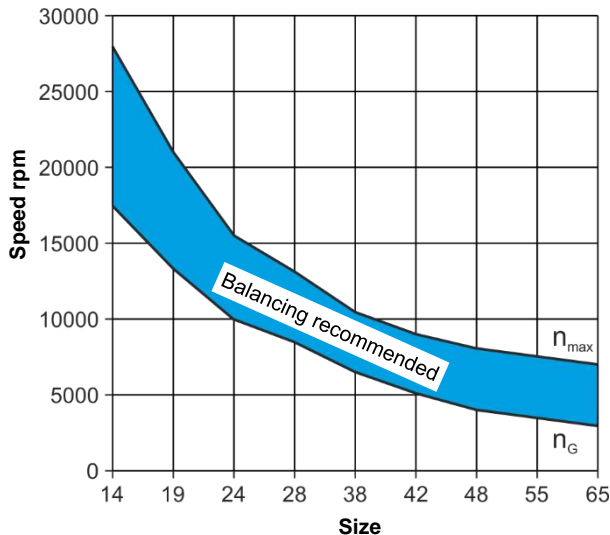

Fig. 19 (Balancing the shrink disk hubs)
- **Clamping hubs (0/5), key hubs (2), split clamping hubs (3) and expansion hubs (4)** rotate at maximum speed with a circumferential speed of 30 m/s. They are not balanced for standard delivery.
- **Shrink disk hubs (1) made of steel and aluminum** maintain balance quality $G = 6.3$ up to speed n_G (equals approx. 20 m/s) without needing to be balanced. Above this speed, we recommend balancing. The hubs are balanced individually. The diagram (Fig. 19) shows reference values. We recommend you use these values to balance the coupling components.
Smooth running of the machine is not only ensured by the coupling balance quality, but is also influenced by parameters such as rigidity and distance to the adjacent bearings as well as by the sensitivity and mass of the entire construction. Figure 19, therefore, only shows reference values as recommendations for balancing.